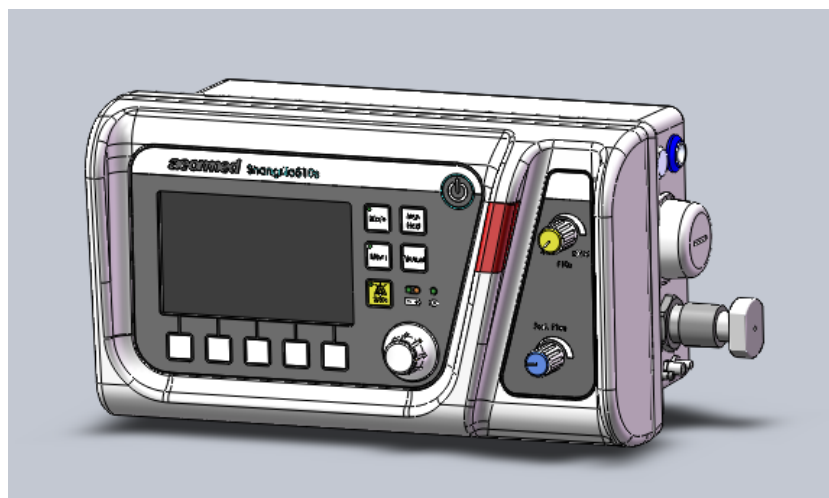

Figure 3-23
8. Perform the calibration, as shown in Figure 3-23.